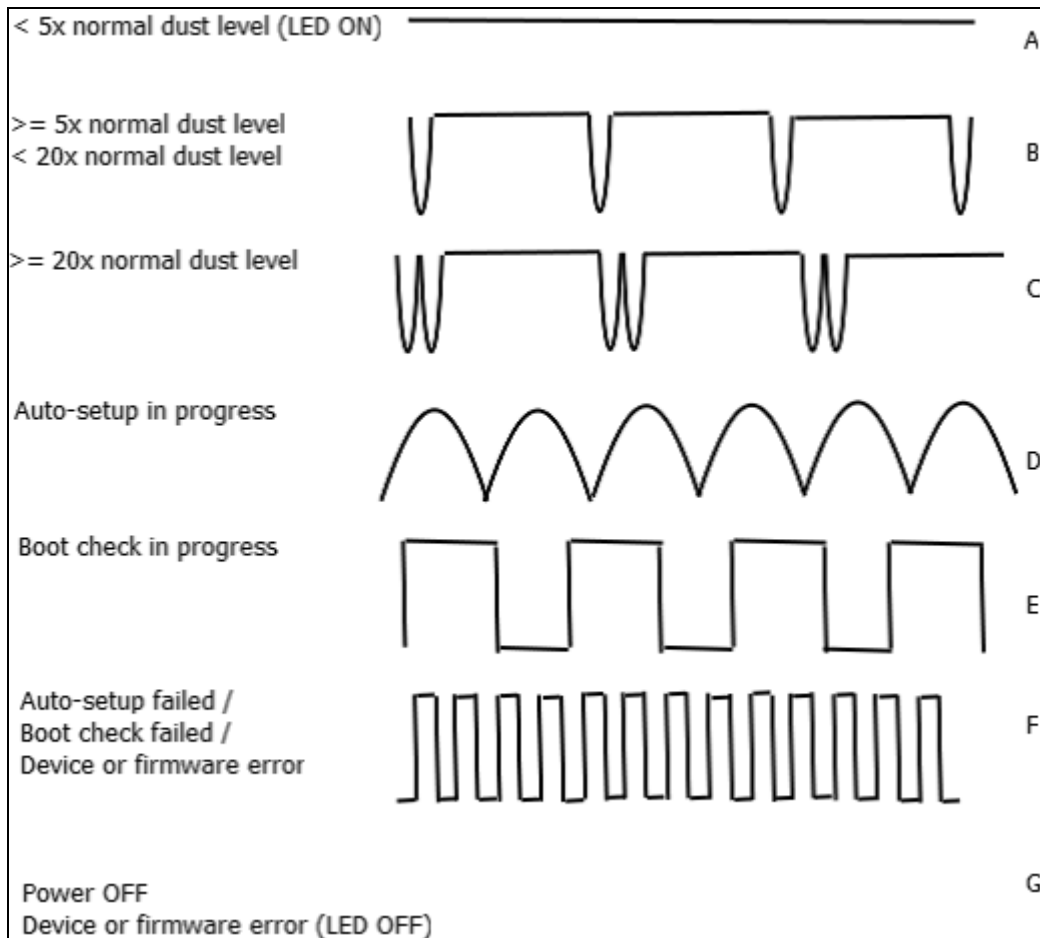

Figure 5 Description of Snifter A1+ cover illumination sequences.
2. Then start the auto-setup procedure by connecting the automatic setup signal (green wire) to the V+ signal (wire) for a period of 1 second. The automatic setup will initiate and the front panel light will start to blink slowly (sequence D in Figure 5 Description of Snifter A1+ cover illumination sequences.).